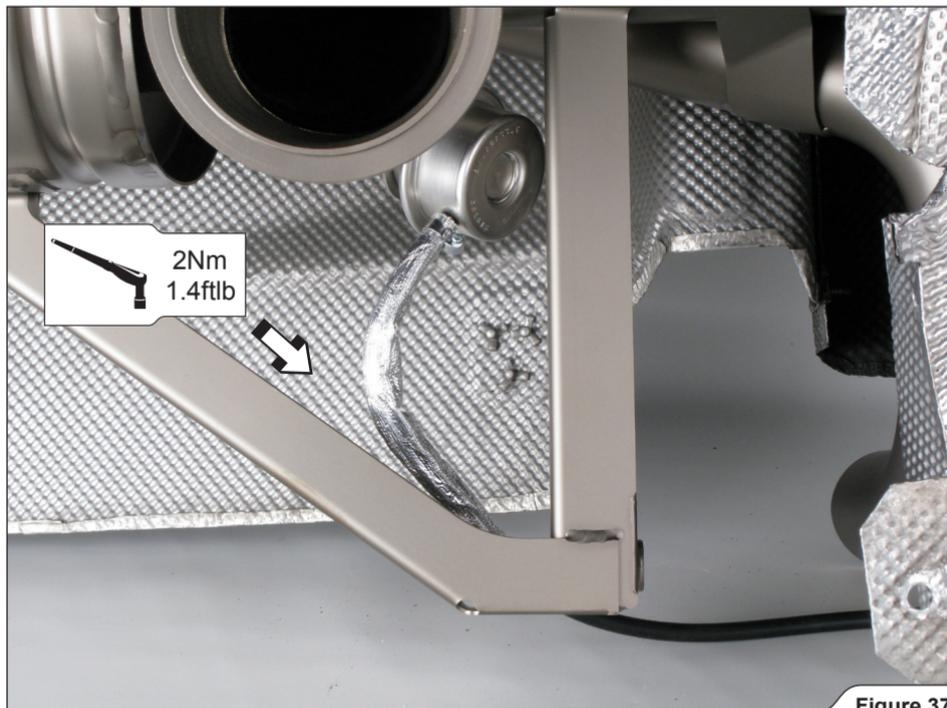

Figure 37
3. Attach the longer Akrapovič (900mm) rubber vacuum tube onto the left exhaust valve actuator and tighten the tape clamp (**Figure 37**).